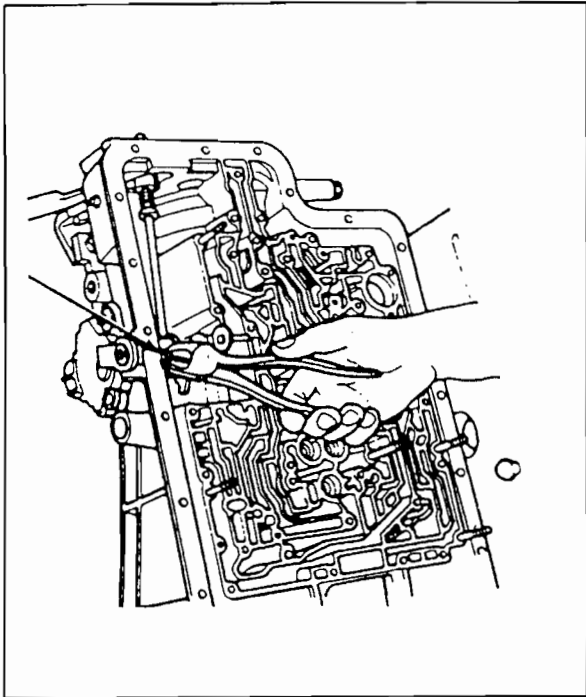

FIGURE 2
2. Using side cutters or suitable tool remove manual lever roll-pin from the case (See Figure 2).